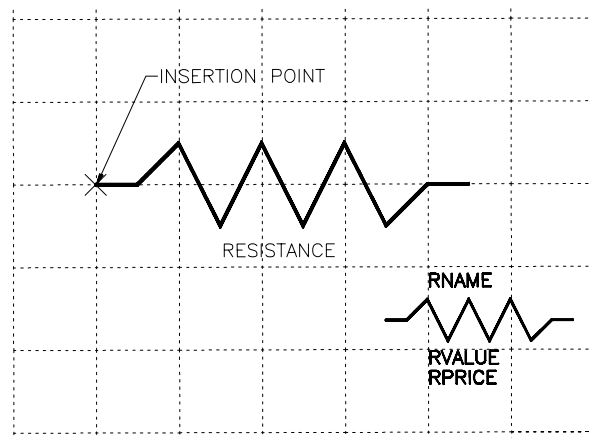

Figure 15-39 Drawing of a resistor for Exercise 1
1. Draw the resistor as shown in Figure 15-39.
3. Define the attributes as shown in the preceding table, and position the attribute text as shown in Figure 15-39.